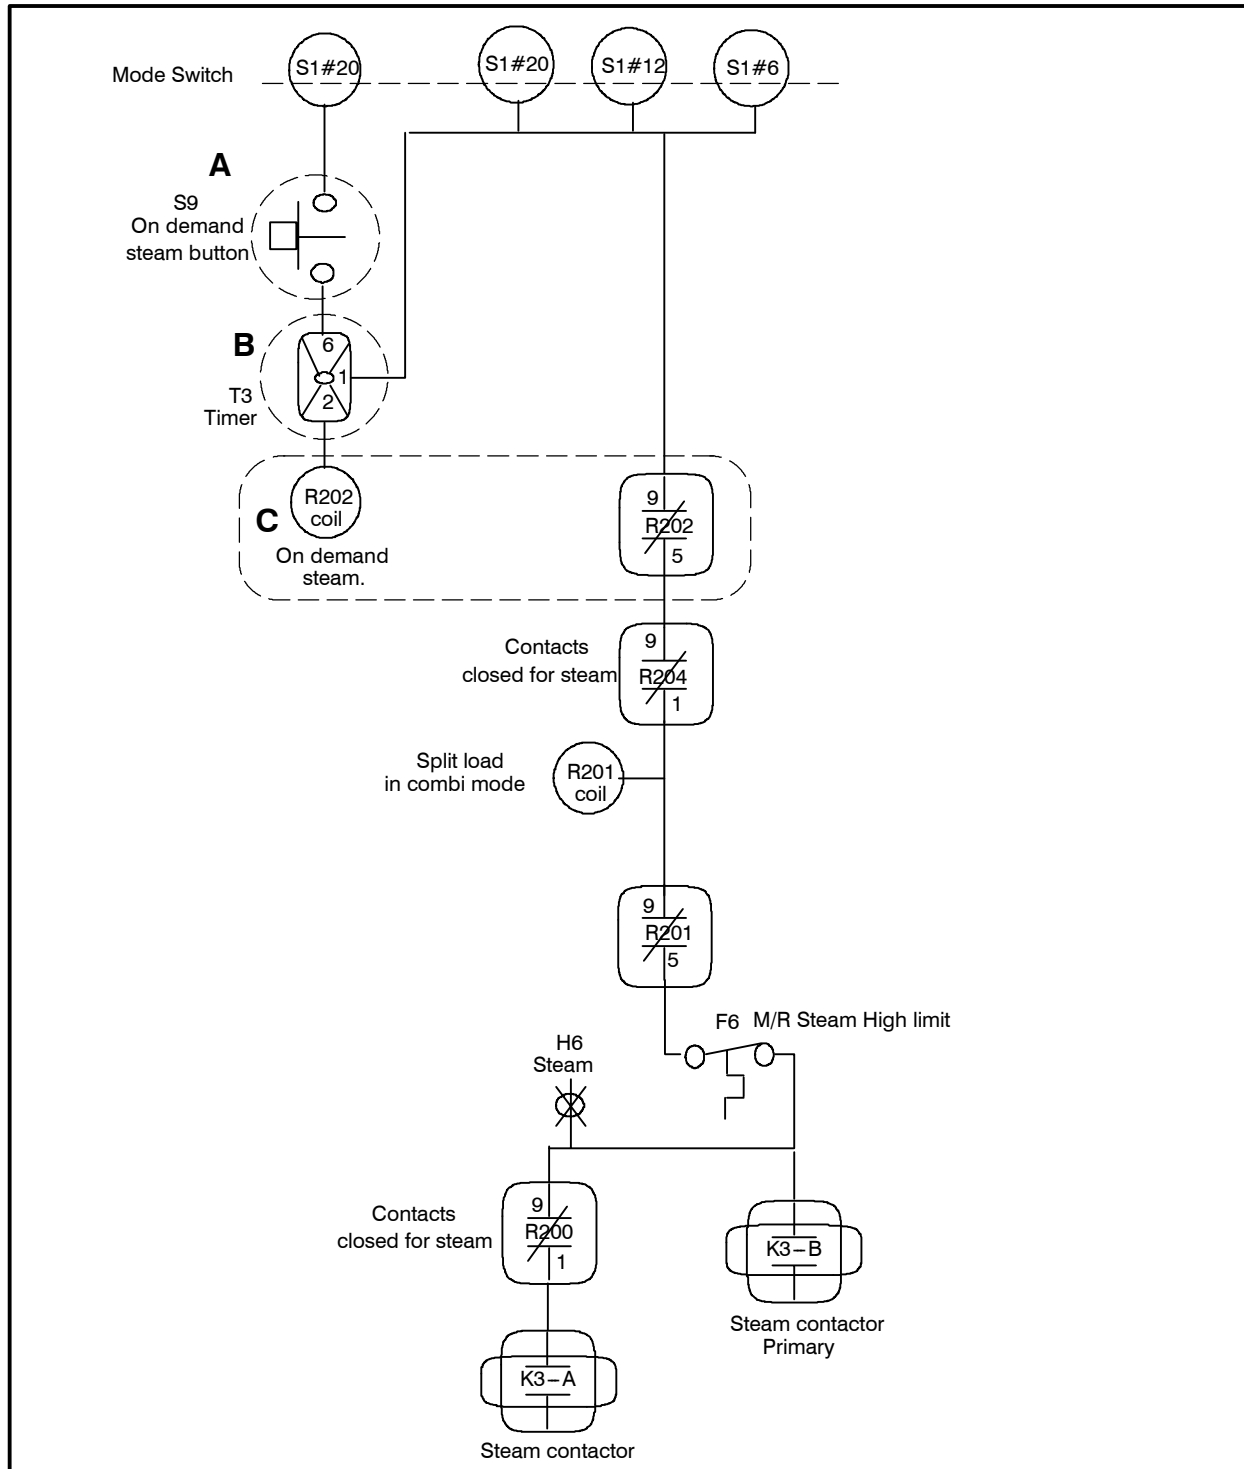

FIGURE 5
2. Check S9 on demand steam button. See FIGURE 5, location (A).
3. Check input and output to T3 solid state timing relay. See FIGURE 5, location (B).
4. Check relay R202 coil and contacts. See FIGURE 5.